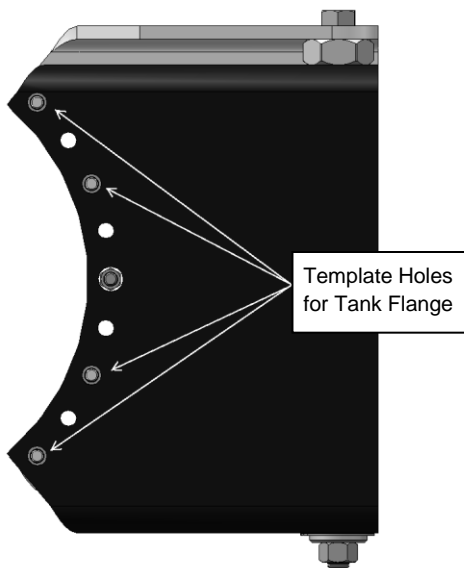

Figure 23. Drilling Tank Flange for Swing-out
1. If tank flange is not drilled and tapped for swing-out arm, use swing-out assembly as template for 4 new tapped holes (see Figures 23 and 29).